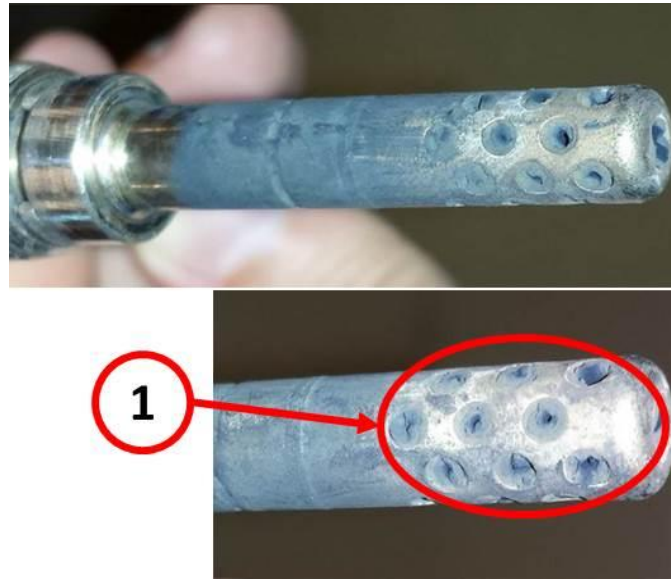

Fig. 1 EGT Sensor Bank 1 Sensor 2
10. Inspect the sensor body and probe for any signs of damage or excessive soot. Refer to (Fig. 1).